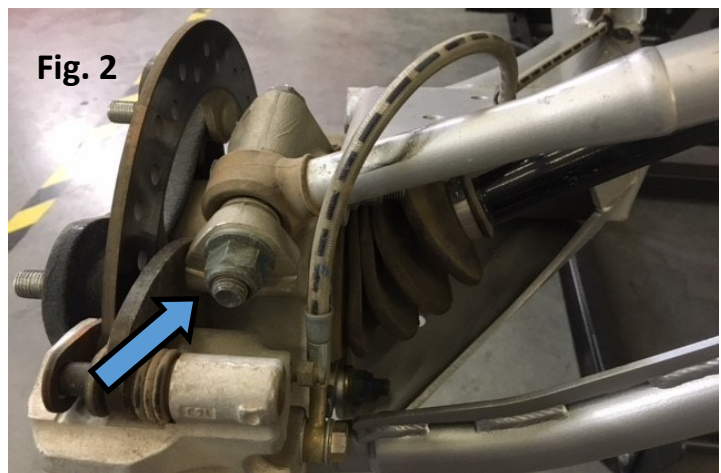

Fig. 2
2. Starting at the outer end of the driver-side Upper Radius Rod, loosen and remove the bolt and nut (Fig. 2). **NOTE: Lifting upward on the brake rotor or caliper slightly will take the pressure off the radius rod and bolt for easy removal.** At the radius rod center support plate, loosen and remove the bolt and nut shown (Fig. 3). You can now remove the OEM Radius Rod.